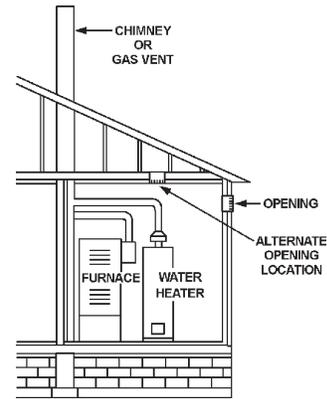

FIGURE 7.
- Alternatively a single permanent opening may be used when communicating directly with the outdoors, or with spaces that freely communicate with the outdoors. The opening shall have a minimum free area of 1 square inch per 3,000 BTU per hour (8.3 cm2/kW) of total input rating of all equipment in enclosure. See Figure 7.